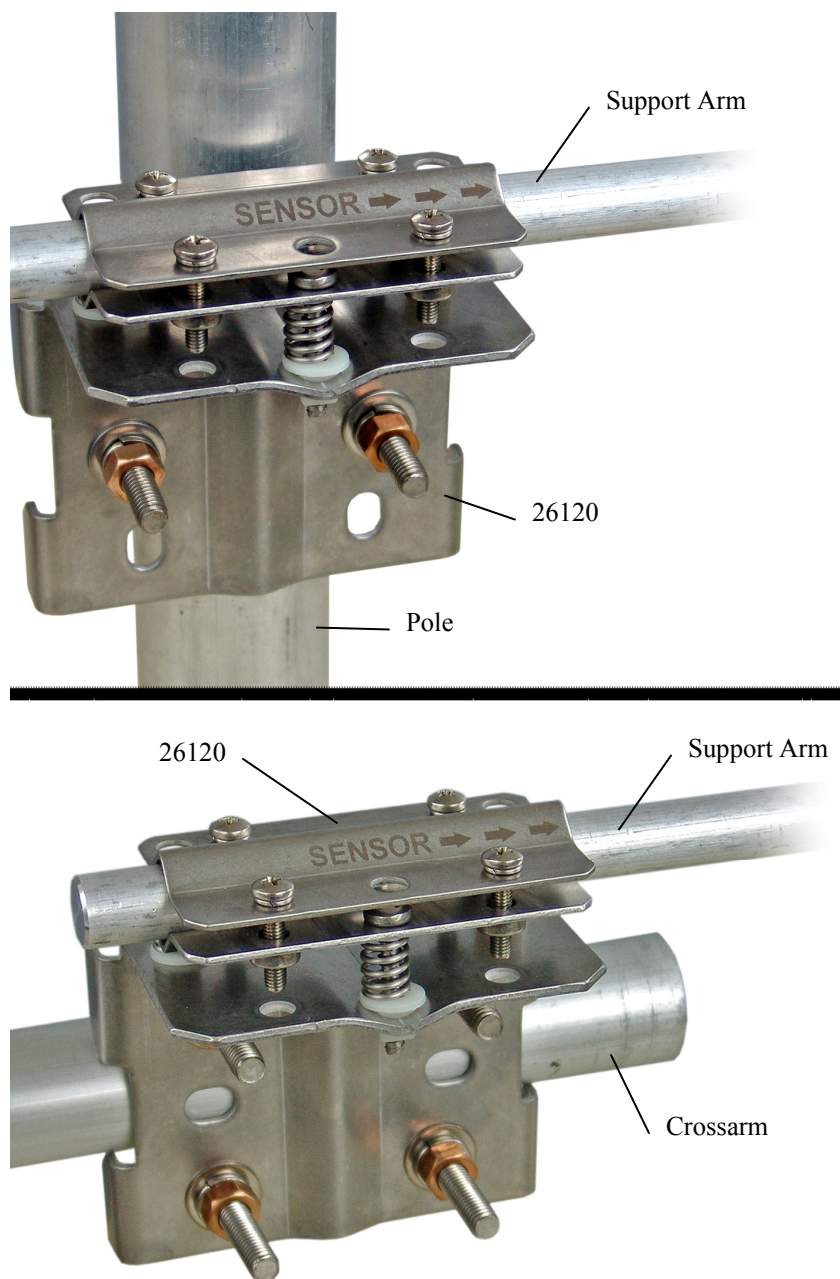

FIGURE 4-2. Mounting the NR-LITE2 onto a pole (top) and crossarm (bottom) via the 26120 Mounting Kit
2. Attach the 26120 mounting bracket to the vertical mounting pipe, or CM200-series crossarm using the provided U-bolt (FIGURE 4-2).
3. Insert the sensor's support arm into the mounting block of the mounting bracket kit. Make sure the sensor points in the direction of the arrows that appear after the word **SENSOR** on top of the bracket (FIGURE 4-2).
5. Tighten the four screws on top of the mounting bracket to properly secure the support arm so that it does not rotate (FIGURE 4-2).
6. Perform the fine leveling using the two spring-loaded leveling screws—one on the front and the other on the back of the bracket (FIGURE 4-2).